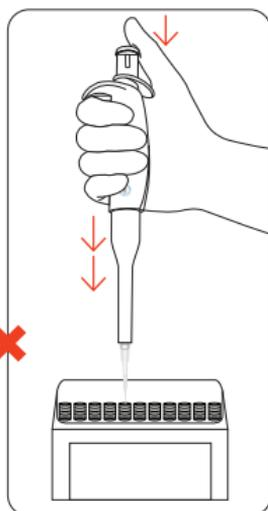

Figure 14. Avoid hammering on the pipette tip.
- ▶ To protect your pipette, avoid tapping the pipette onto the tip like a hammer. (figure 14)